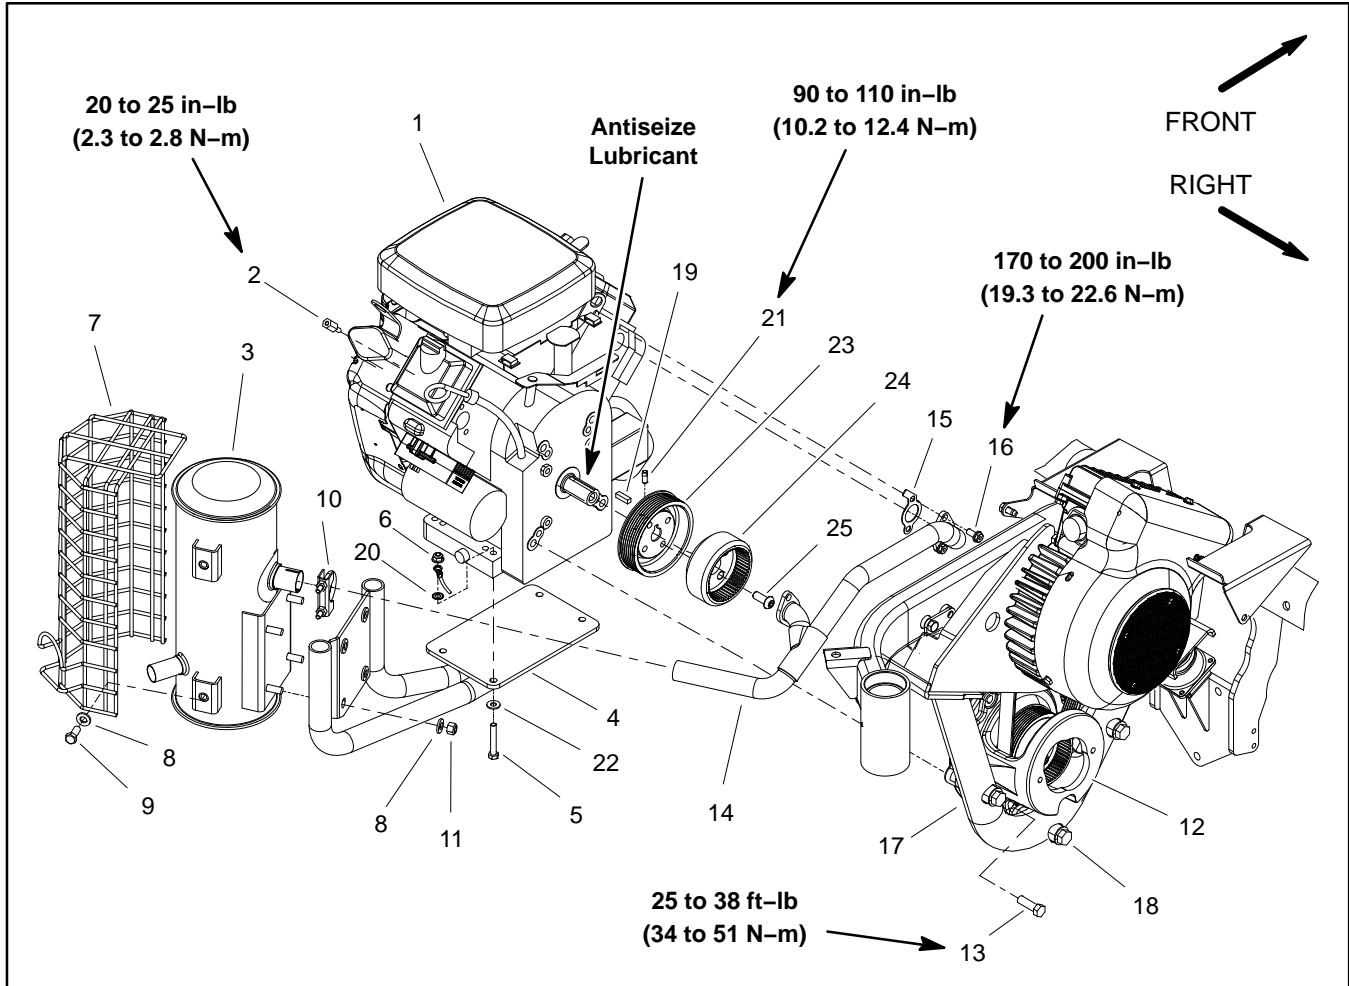

Figure 9
Engine Removal (Fig. 9)
12. If necessary, remove the coupling and generator pulley from the engine crankshaft using Figure 9 as a guide.
13. If necessary, remove exhaust system components from engine using Figure 9 as a guide.
Engine Installation (Fig. 9)
2. If exhaust system components were removed from engine, attach removed components using Figure 9 as a guide.
- A. Position square key (item 19) to crankshaft. Apply antiseize lubricant to engine crankshaft and key.
- C. Apply Loctite #242 (or equivalent) to two (2) square head screws (item 21). Secure pulley to crankshaft with square head screws. Torque screws from **90 to 110 in-lb (10.2 to 12.4 N-m)**.